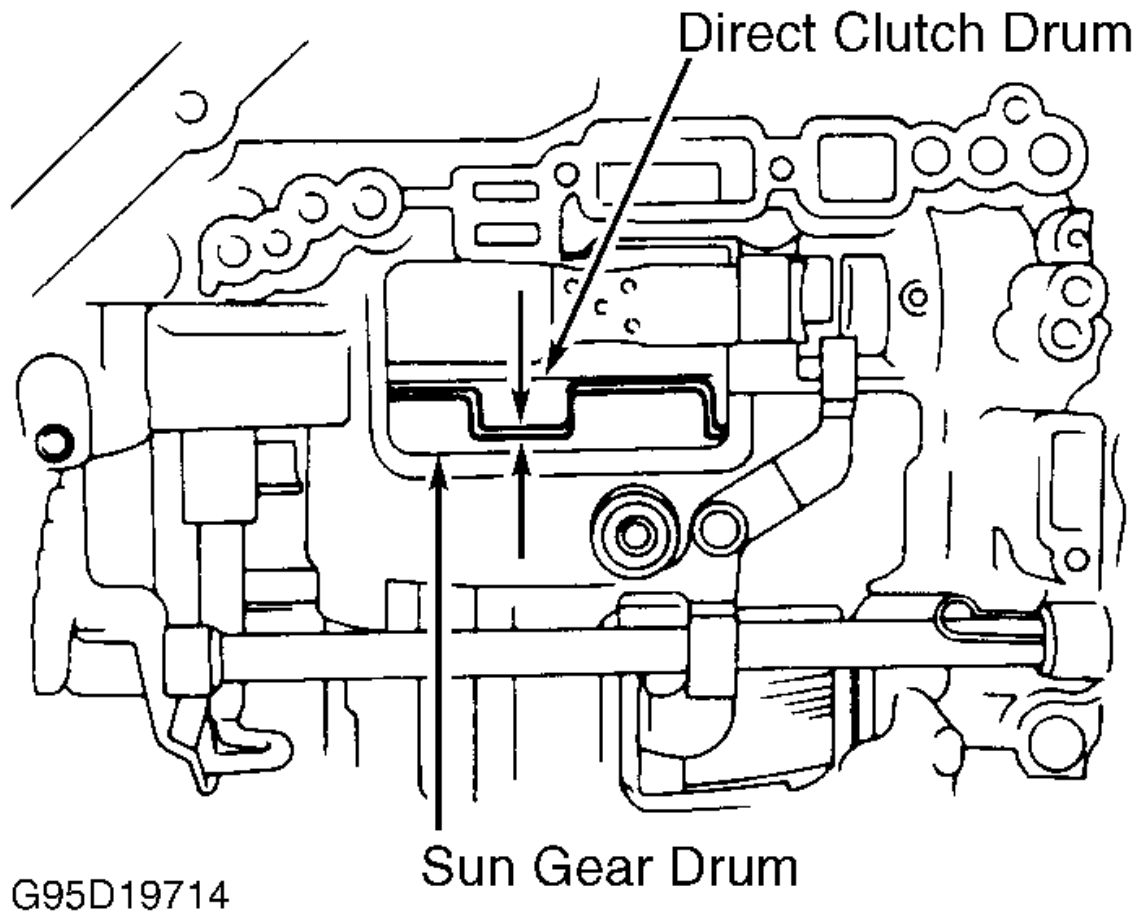

Fig. 85: Checking Direct/Forward Clutch Drum Assembly Installation
25. Rotate forward clutch to mesh with front planetary gear and discs. Install direct clutch and forward clutch into transaxle case. Check installation of direct/forward clutch assembly. Measure distance between direct clutch and sun gear drum (shell). See Fig. 85 . Distance should be .118" (3.0 mm).